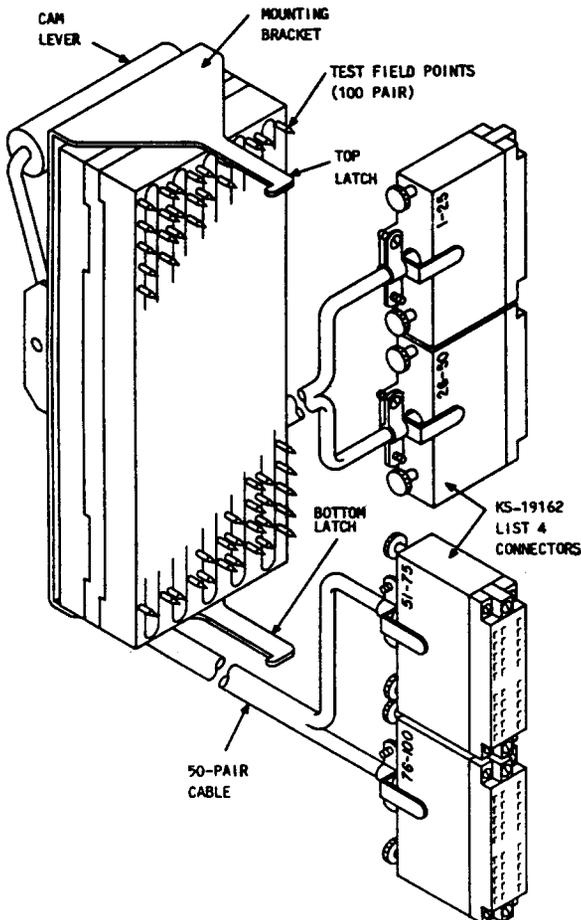

Figure 3—U Test Connector (AT-9007)—For 309-Type Connectors
2.04 The U test connector (Figure 3) is used to connect the 100-pair protector panel of the 309-type connector to automatic pair identification equipment. The test connector makes contact with the outside plant T and R conductors through the test points in the top of the 4C-type protector units. If the 309-type connector is not equipped with the protector units, the contacts in the test connector make contact with the outside plant T and R conductors through their respective jacks in the protector panel. The test connector contains 200 (100 pairs) spring-loaded contacts that are internally connected to two 50-pair, 15-foot long cables. Each cable terminates on two 25-pair KS-19162, L4 (or equivalent) connectors for attachment to automatic pair identification equipment. The four connectors are numbered 1-25, 26-50, 51-75, and 76-100 to identify the respective cable pair count. A separate pick test panel is furnished with the U test connector for single or pair-at-a-time testing. The test connector is also furnished with a KS-22396, L1 carrying case.